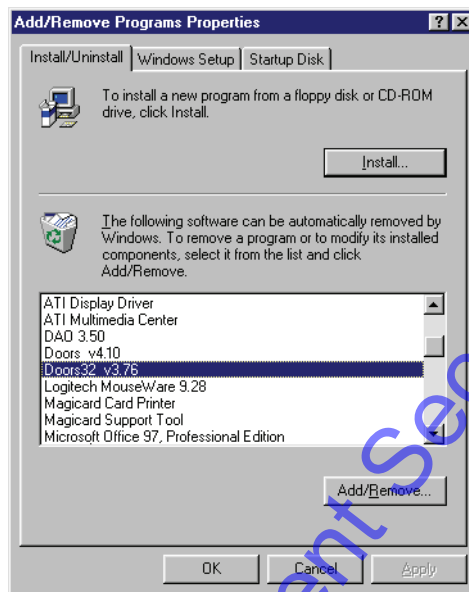

Figure 1-7: Add/Remove Programs Properties Window
4. An Add/Remove Programs Properties window appears. In the bottom half of this window is a list of installed programs. Scroll through this list of programs and locate and click on the *Doors* listing you wish to remove from the host computer (see Figure 1-7).